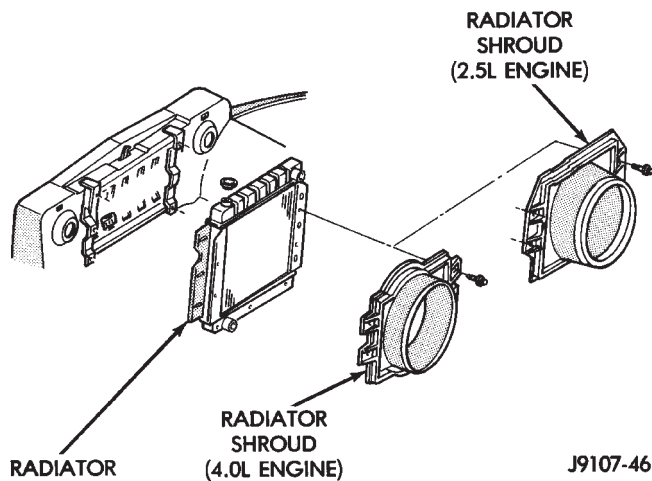

Fig. 35 Radiator—Remove/Install—YJ Models
(1) Disconnect negative battery cable at battery.
(2) Observe the previous **WARNINGS**. Remove the radiator cap.
(3) Position drain pan under draincock. Open radiator draincock and drain radiator.
(4) Remove radiator upper and lower hose clamps and hoses.
(5) Disconnect coolant reserve/overflow tank hose from radiator.
(6) Remove fan shroud bolts and push shroud back onto fan (Fig. 35).
(7) If equipped, disconnect and plug automatic transmission fluid cooler lines.
(8) Remove radiator attaching bolts.
(9) Lift radiator straight up and out of vehicle taking care not to damage radiator fins.
- (1) Install the radiator. Tighten the mounting bolts to 8 N·m (6 ft. lbs.) torque (Fig. 35).
- (2) Close radiator draincock.
- (3) Install fan shroud. Tighten mounting bolts to 16 N·m (11 ft. lbs.) torque.
- (4) If equipped, remove plugs and connect automatic transmission fluid cooler lines.
- (5) Connect radiator hoses and install hose clamps.
- (6) Connect negative battery cable.
- (7) Fill cooling system with correct coolant. Refer to the Coolant section of this group.
- (8) Connect reserve/overflow tank hose.
- (9) Install radiator cap.
- (10) Check and adjust automatic transmission fluid level (if equipped).